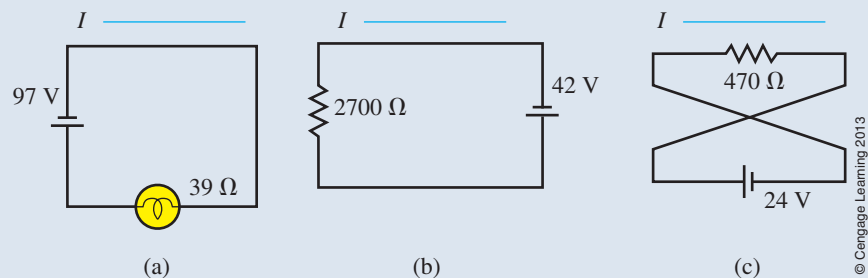

FIGURE 4-7 What is the current direction and value of I for each case?
- For each circuit of Figure 4-7 determine the current, including its direction (i.e., the direction that the current arrow should point).